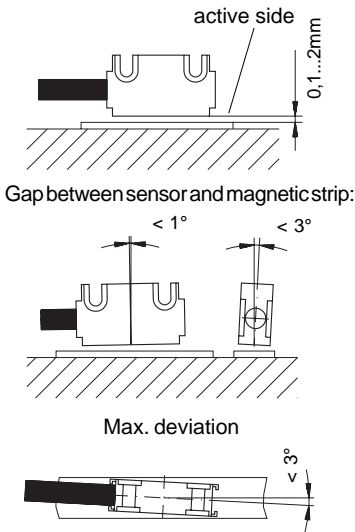

Fig. 8: Mounting of sensor Typ L
- Respect admissible gap sensor / magnetic band and the angle tolerances over the entire measuring length! (see fig.8)